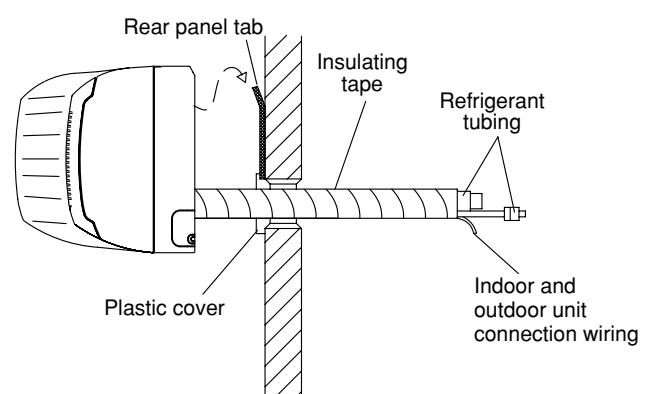

Fig. 3-29
- (1) Shape the refrigerant tubing so that it can easily go into the hole. (Fig. 3-29)
- (2) After performing a leak test, wrap both the refrigerant tubing and drain hose together with insulating tape. The drain hose should be positioned below the refrigerant tubes, and should be given sufficient space so that no strong tension is applied to it.
- (3) Push the wiring, refrigerant tubing and drain hose through the hole in the wall. Adjust the indoor unit so it is securely seated on the rear panel.